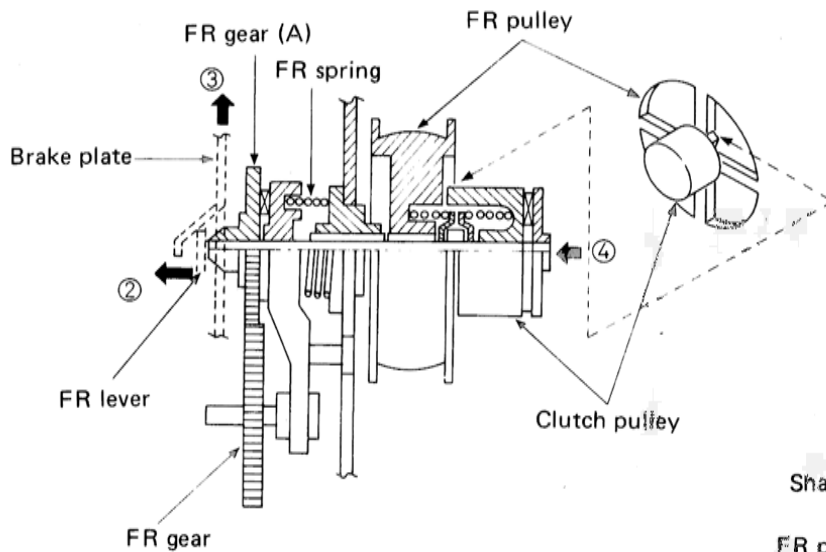
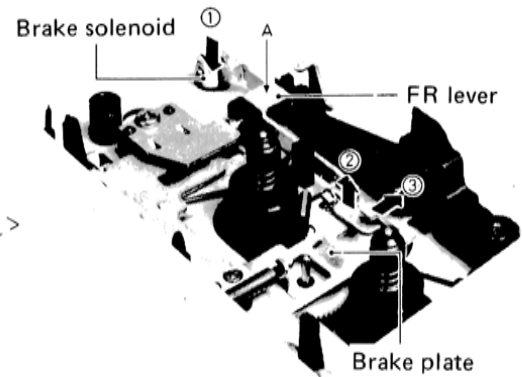

Fig. 4
Fig. 5
When the brake solenoid operates, the FR lever moves in the direction of arrow (2) pivoted on support (A) shown in Fig.5, the inclined side of the brake plate shown in Fig.4 is pressed by the FR lever and the brake plate rises. In this way the brake rubber is released from the reel and braking is released.
When the FR lever moves in the direction of arrow (2), FR gears (A), (B) shown in Fig.4 are lifted by the FR spring to engage the reel gears and the FR gear (B).
The slip mechanism is provided underneath the FR gear (A) shown in Fig.4, to stop the taking up of the tape when it is fully wound.